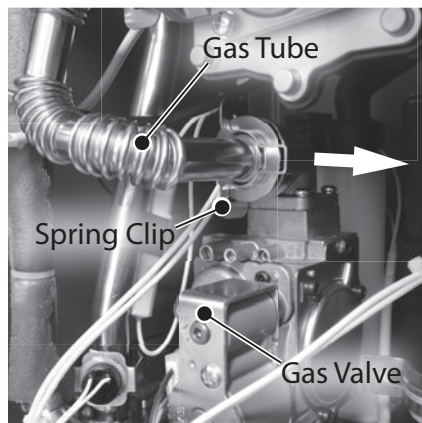

Figure 87 - Remove gas tube spring clip
**9** Locate the gas tube connecting the venturi assembly to the gas valve as shown in Figure 87. Note the orientation of the spring clip securing the gas tube to the gas valve. Remove spring clip and place it aside in a safe place for reinstallation.